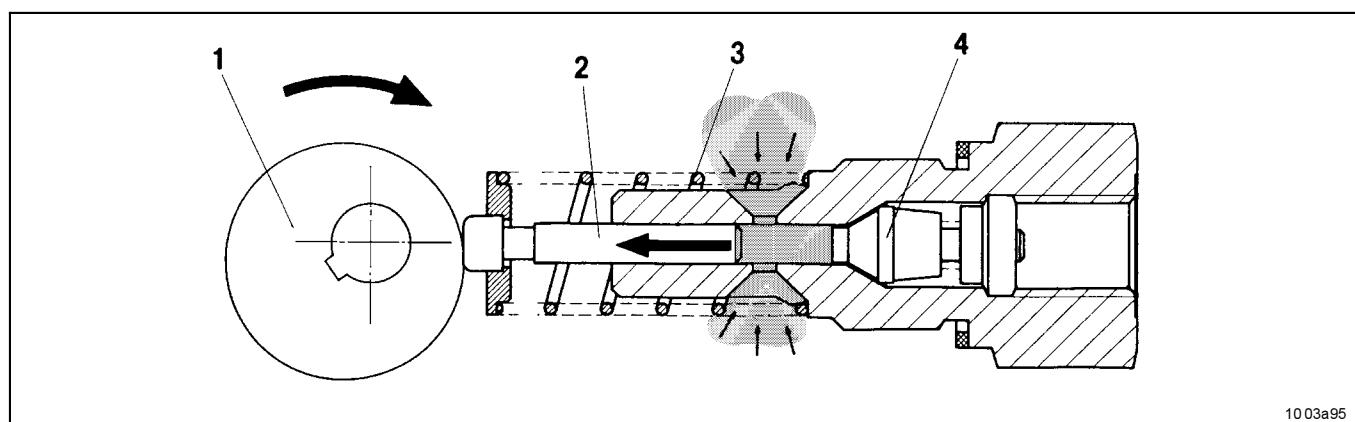

Fig. 2-2 The pump element sucks in lubricant
- piston 2 sucks in lubricant from the reservoir (fig. 2-2).